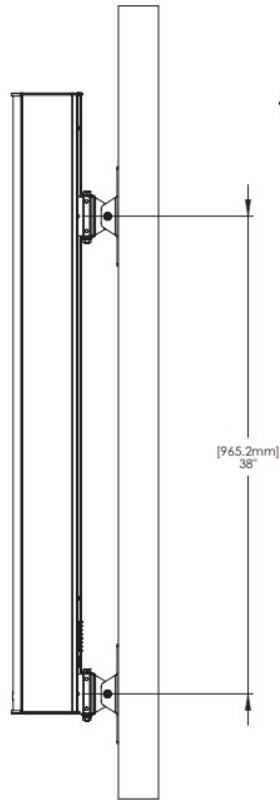

Fig. 2a
B. If the speaker will be parallel to the wall, the upper wall bracket can be located 25" (63.5cm) to 38" (96.5cm) center to center. Two short speaker brackets, one on the top and one on the bottom will be used. Refer to figure 2a.